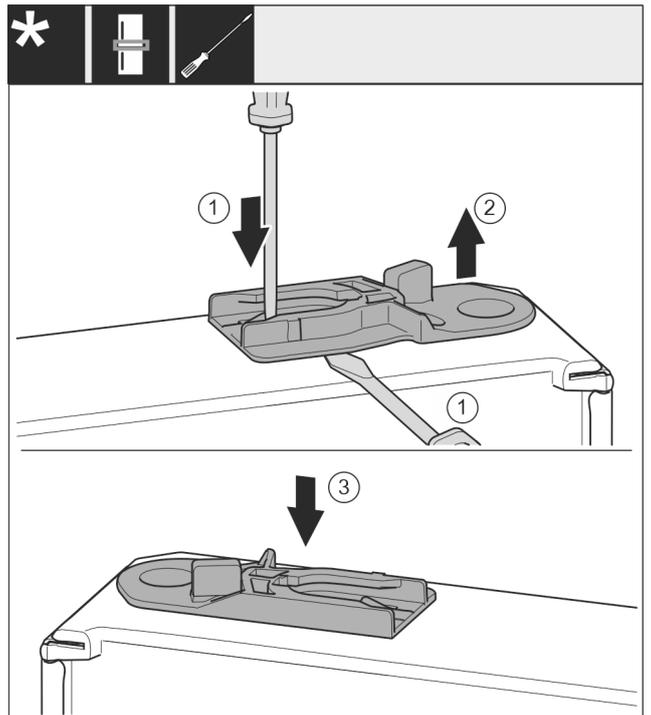

Fig. 41
- ▶ Pull out the guide bush: Press the tab Fig. 41 (1) with a flat-blade screwdriver and at the same time move the flat-blade screwdriver under the guide bush Fig. 41 (2).
- ▶ Insert the guide bush Fig. 41 (3) supplied on the other side of the housing.